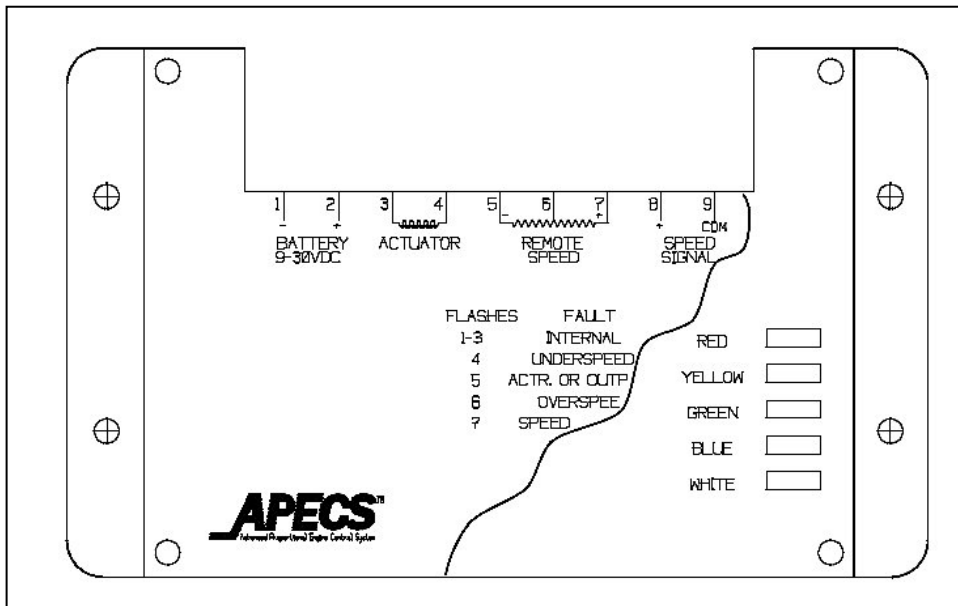

Figure 9. Jumper Location
2. Use the frequency calculated in the previous step and **Table 2** to determine the combination of jumpers to be cut. Because there is considerable overlap in the frequency ranges, select a range where the frequency is near the top of the range. The jumpers can be located by removing the top cover of the controller box (see Figure 9). Be sure cut jumper wires cannot short to cover or any other wiring. If the application will require multiple set speeds, calculate all frequencies and confirm that the frequencies fit within the desired range.